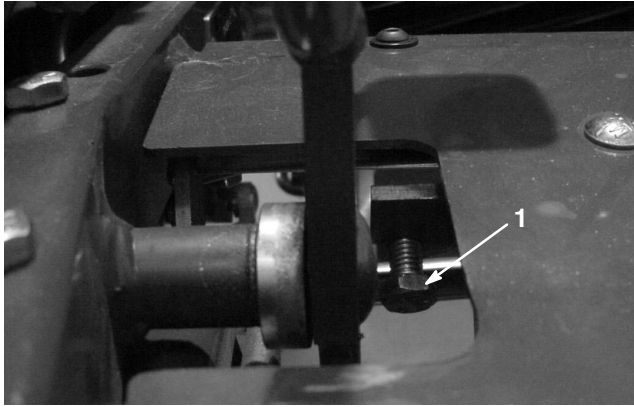

Figure 56
1. Loosen jam nut on pedal lock capscrew (Fig. 56).